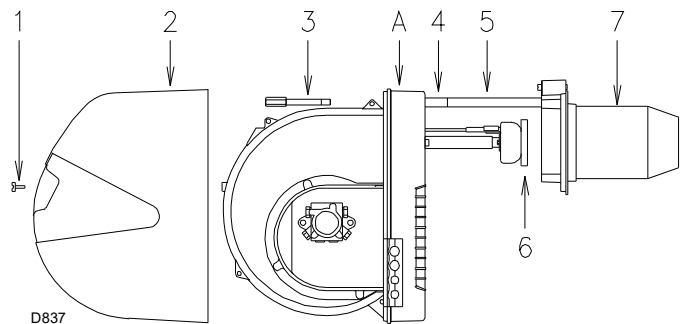

Fig. 31
- Remove screw 1)(Fig. 31) and withdraw the casing 2).